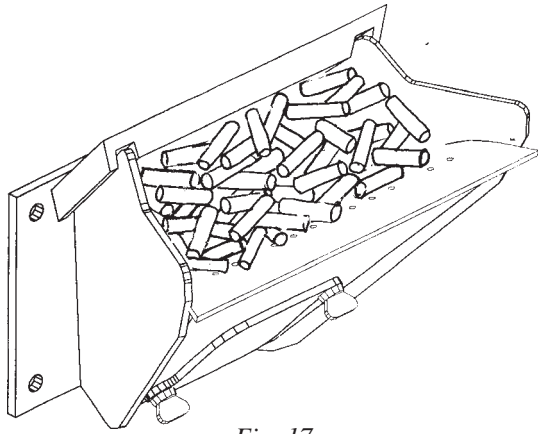

Fig. 17
**Fill the burn pot** with pellets to a level just short of overflowing, fig. 17.